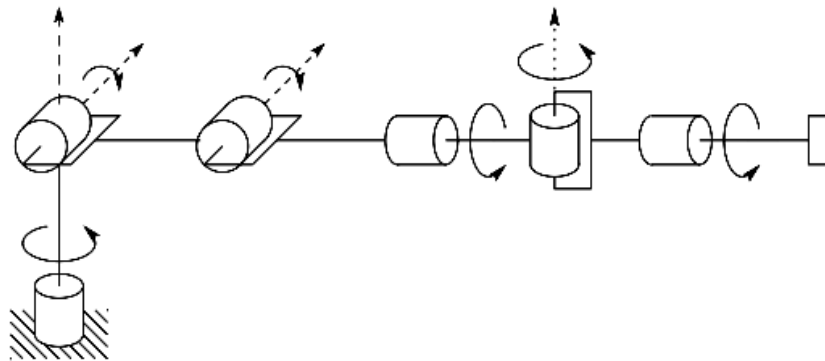

Figure 1. Elbow manipulator with spherical wrist
- Q.1 (a)** Consider Elbow manipulator with spherical wrist shown in figure 1. Using D-H notation Construct **07**